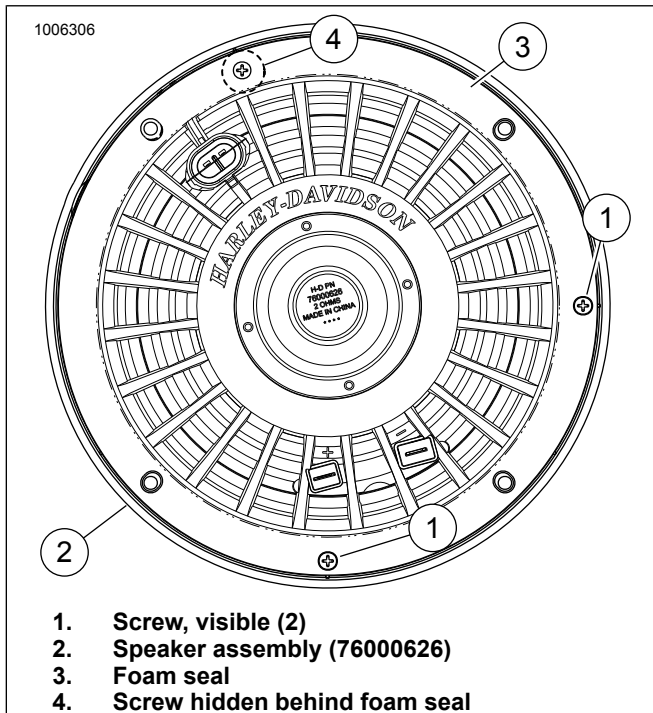
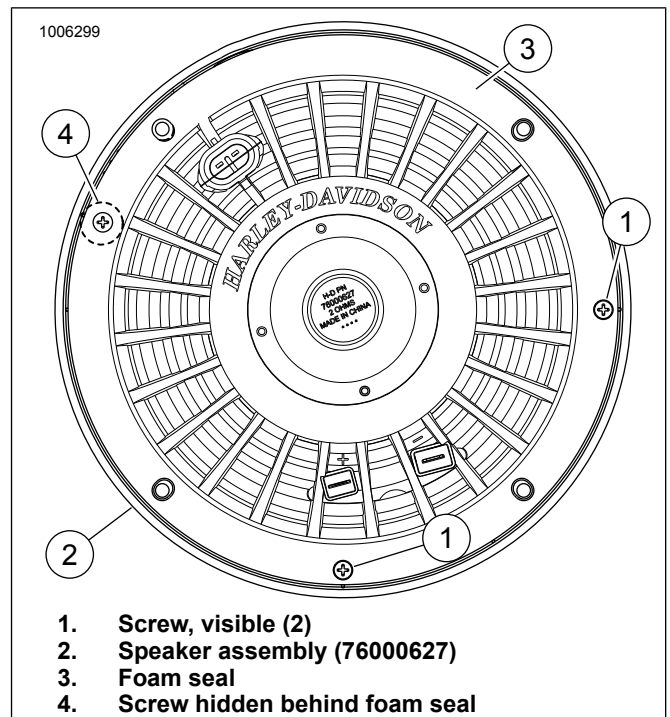

Figure 11. Left Stage II Speaker Assembly
Figure 12. Right Stage II Speaker Assembly
See Figure 11. and Figure 12. Locate hidden screw (4) under foam. carefully make a small "X" with a hobby knife over the screw.